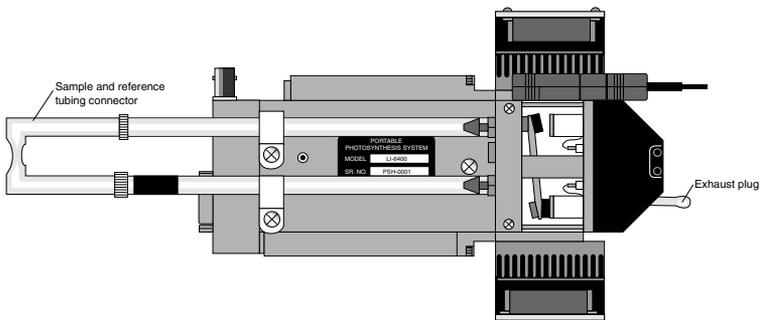

Figure 2-14. Insert exhaust plug and sample and reference tube junction as shown.
10. Join the sample and reference tubes on the sensor head with the "U" shaped piece of tubing, in the 6400-09 replacement parts kit (Figure 2-14).